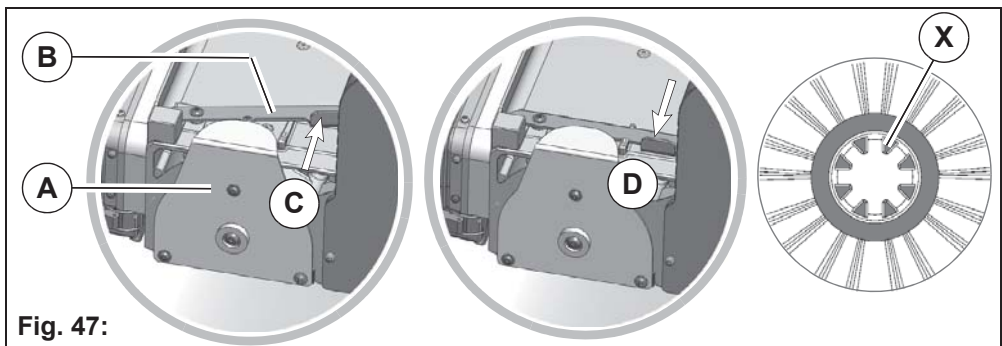

Fig. 47:
3. Unlock the brush holder **Fig. 47-A**:
Press the locking lever **Fig. 47-B** into position **C** and remove the brush holder.
2. Press the locking lever **Fig. 47-B** into position **C** and install the brush holder.